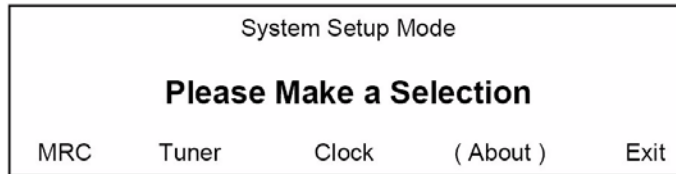

FIG. 50 System Setup Mode - About
1. From the *System Setup Mode* screen, select **About** (FIG. 50):